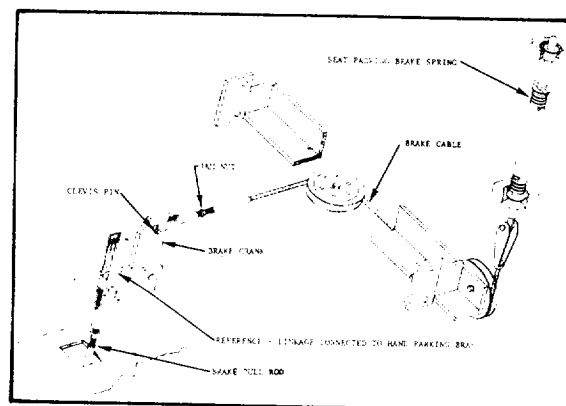

Figure 5-95
With the truck parked on level ground, proceed to adjust the seat parking brake system as follows: (Fig. 5-95).
1. Engage the hand brake parking lever and remove the clevis pin that attaches the brake cable to the brake crank (Fig. 5-95).